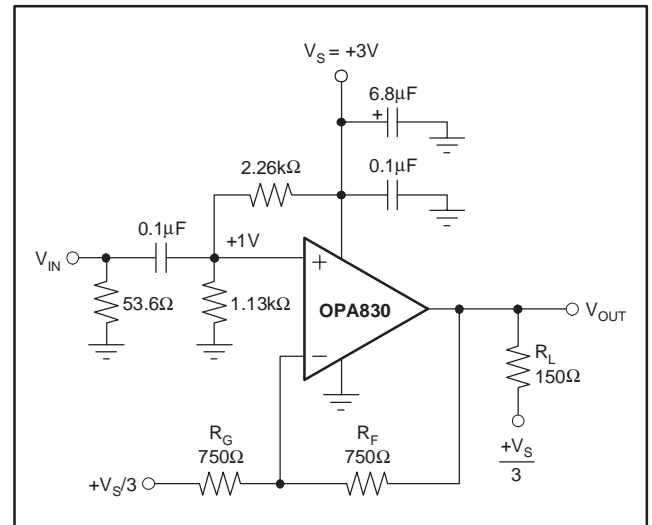
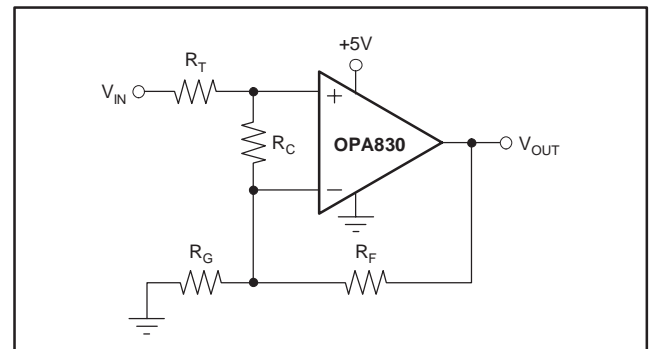

Figure 2. AC-Coupled, G = +2, +3V Single-Supply Specification and Test Circuit
Figure 7. Compensated Noninverting Amplifier
At $T_A = 25^\circ C$, $G = +2$, and $R_L = 150\Omega$ to $V_S/3$, unless otherwise noted (see Figure 2).
Figure 2 shows the AC-coupled, gain of +2 configuration used for the +3V Specifications and Typical Characteristic Curves. For test purposes, the input impedance is set to 50Ω with a resistor to ground. Voltage swings reported in
the Electrical Characteristics are taken directly at the input and output pins. For the circuit of Figure 2, the total effective load on the output at high frequencies is 150Ω || 1500Ω. The 1.13kΩ and 2.26kΩ resistors at the noninverting input provide the common-mode bias voltage. Their parallel combination equals the DC resistance at the inverting input (R_F), reducing the DC output offset due to input bias current.
Figure 7 shows a noninverting amplifier that reduces peaking at low gains. The resistor R_C compensates the OPA830 to have higher Noise Gain (NG), which reduces the AC response peaking (typically 5dB at $G = +1$ without R_C) without changing the DC gain. V_{IN} needs to be a low
Frequency response in a gain of +2 may be modified to achieve exceptional flatness simply by increasing the noise gain to 3. One way to do this, without affecting the +2 signal gain, is to add an 2.55k Ω resistor across the two inputs, as shown in Figure 7. A similar technique may be used to reduce peaking in unity-gain (voltage follower) applications. For example, by using a 750 Ω feedback resistor along with a 750 Ω resistor across the two op amp inputs, the voltage follower response will be similar to the gain of +2 response of Figure 2. Further reducing the value of the resistor across the op amp inputs will further dampen the frequency response due to increased noise gain. The OPA830 exhibits minimal bandwidth reduction going to single-supply (+5V) operation as compared with $\pm 5V$. This minimal reduction is because the internal bias control circuitry retains nearly constant quiescent current as the total supply voltage between the supply pins is changed.
The criterion for setting this R_S resistor is a maximum bandwidth, flat frequency response at the load. For a gain of +2, the frequency response at the output pin is already slightly peaked without the capacitive load, requiring relatively high values of R_S to flatten the response at the load. Increasing the noise gain will also reduce the peaking (see Figure 7).